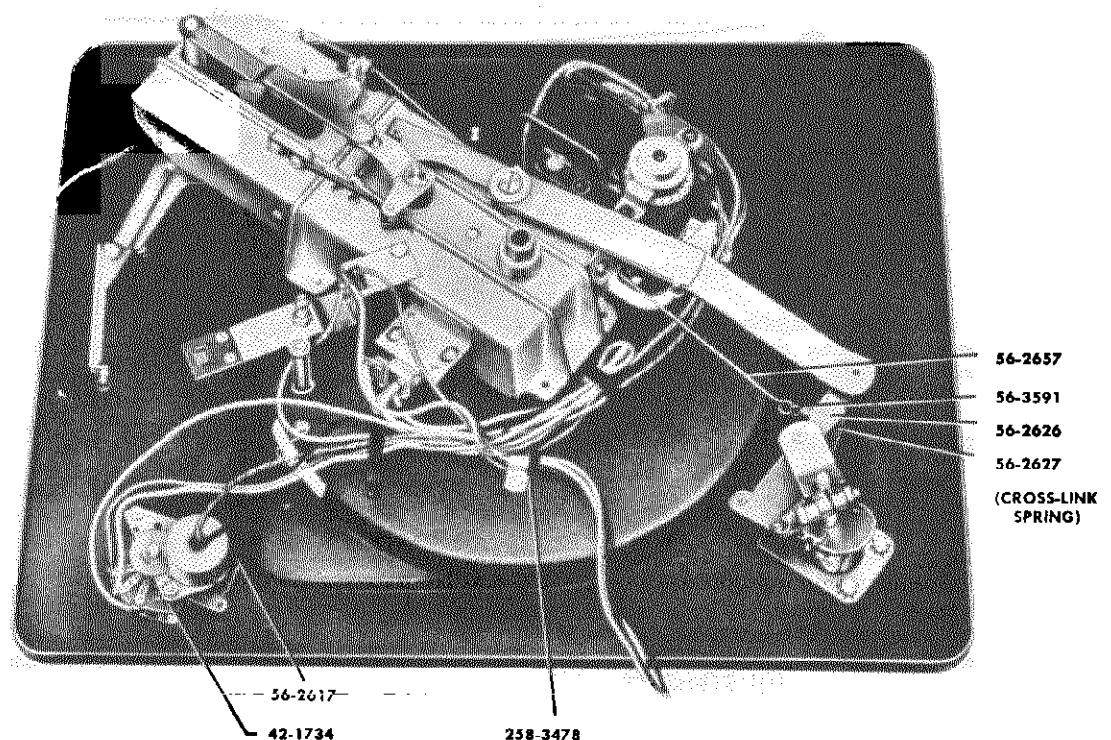
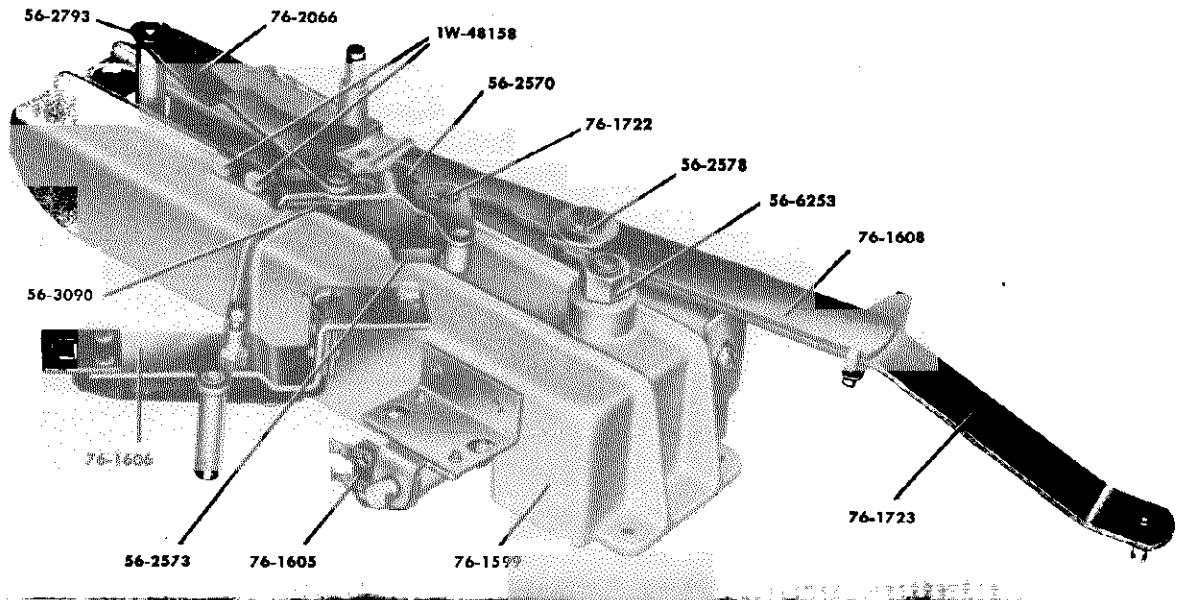

Figure 24—CHANGER, UNDERSIDE VIEW.
Figure 26—CHANGER MECHANISM ASSEMBLY, UNDERSIDE VIEW.
- d. Unhook pull-cord spring 56-2617, figure 24.
- a. Remove cross-link spring 56-2627 and cross-link 56-2626, figure 24.
- b. Unhook one end of pull-rod spring 56-3591, figure 24.
- c. Remove hex-head screw holding trip-contact assembly to changer-mechanism housing, figure 26.
- a. Remove "C" washers 56-2793 from main-cam and main gear-shaft assemblies, figure 26.
- a. Remove cross-link spring 56-2627, and cross-link 56-2626, figure 24, from eccentric-shaft lever.
- b. Remove spring 56-2570 from mechanism frame, figure 26.
- a. Remove two screws, 1W-48158, figure 26, from mechanism frame and lift off spring.
- a. Remove cross-link spring 56-2627, figure 24.
- c. Remove spring 56-3591 and pull-rod 56-2657, figure 24.
- b. Remove "C" washer 56-2793 which holds push-link 76-2066 to main-cam stud. See figure 26.
- Remove pull-rod 56-2657, figure 24, and spring 56-2570, figure 26.
- d. Lift out main-gear-shaft assembly, figure 26.
- b. Loosen nut 56-6253, figure 26, a few turns and tap with a wooden mallet. Continue this process until shaft is free.